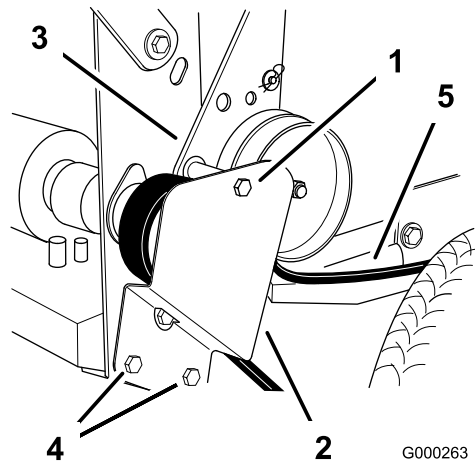

Figure 49
1. Remove the top capscrew securing idler support and idler bracket to rear frame (Figure 49).
2. Loosen bottom two mounting screws enough to allow belt to pass between drive pulley and idler support (Figure 49).
5. Install the top capscrew securing the idler support and idler bracket to the rear frame (Figure 49).
6. Tighten the bottom two mounting screws enough to allow the belt to pass between the drive pulley and idler support (Figure 49).